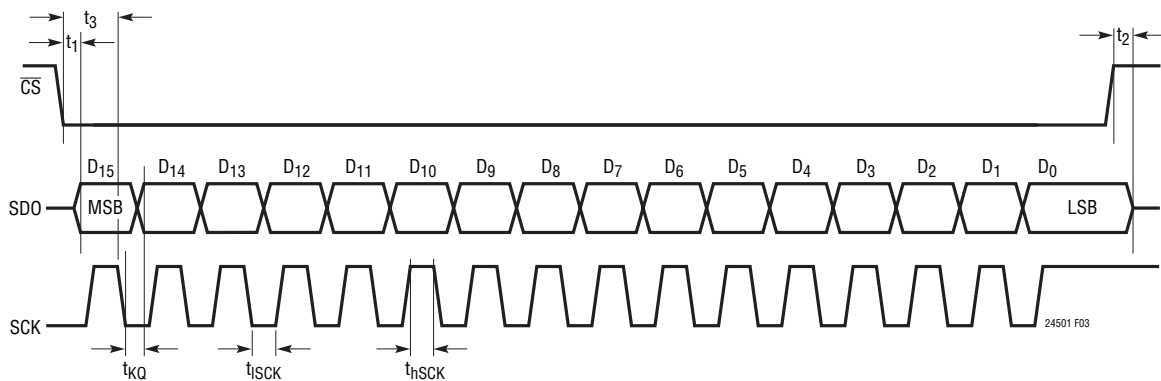

Figure 3. Data Output Timing
**Note 7:** See Figure 3.
Upon entering the DATA OUTPUT state, SDO outputs the most significant bit (D15) of the conversion result. During this state, the ADC shifts the conversion result serially through the SDO output pin under the control of the SCK input pin. There is no latency in generating this data and the result corresponds to the last completed conversion. A new bit of data appears at the SDO pin following each falling edge detected at the SCK input pin. The user can reliably latch this data on every rising edge of the external serial clock signal driving the SCK pin (see Figure 3).
The LTC2450-1 generates a 16-bit direct binary encoded result. It is provided, MSB first, as a 16-bit serial stream through the SDO output pin under the control of the SCK input pin (see Figure 3).